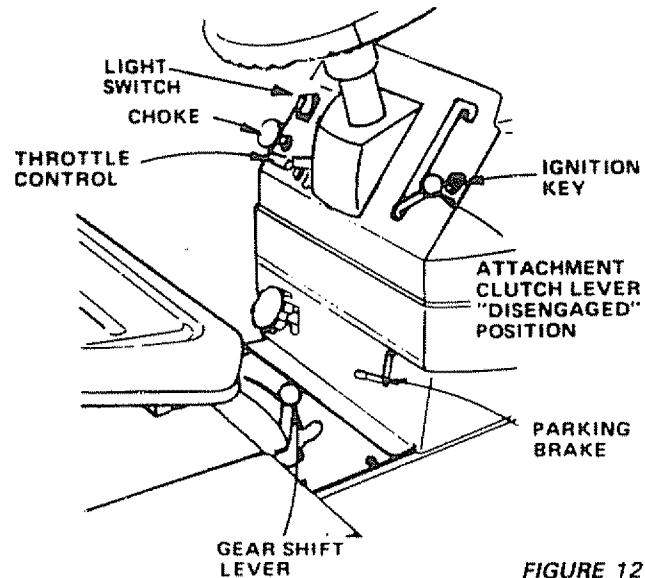

FIGURE 12
- Place attachment clutch lever in "DISENGAGED" position (Fig. 12).
- Place gear shift lever in "NEUTRAL" position (Fig. 12).
- Pull choke out (Fig. 12).
- Move throttle control to middle position (Fig. 12).